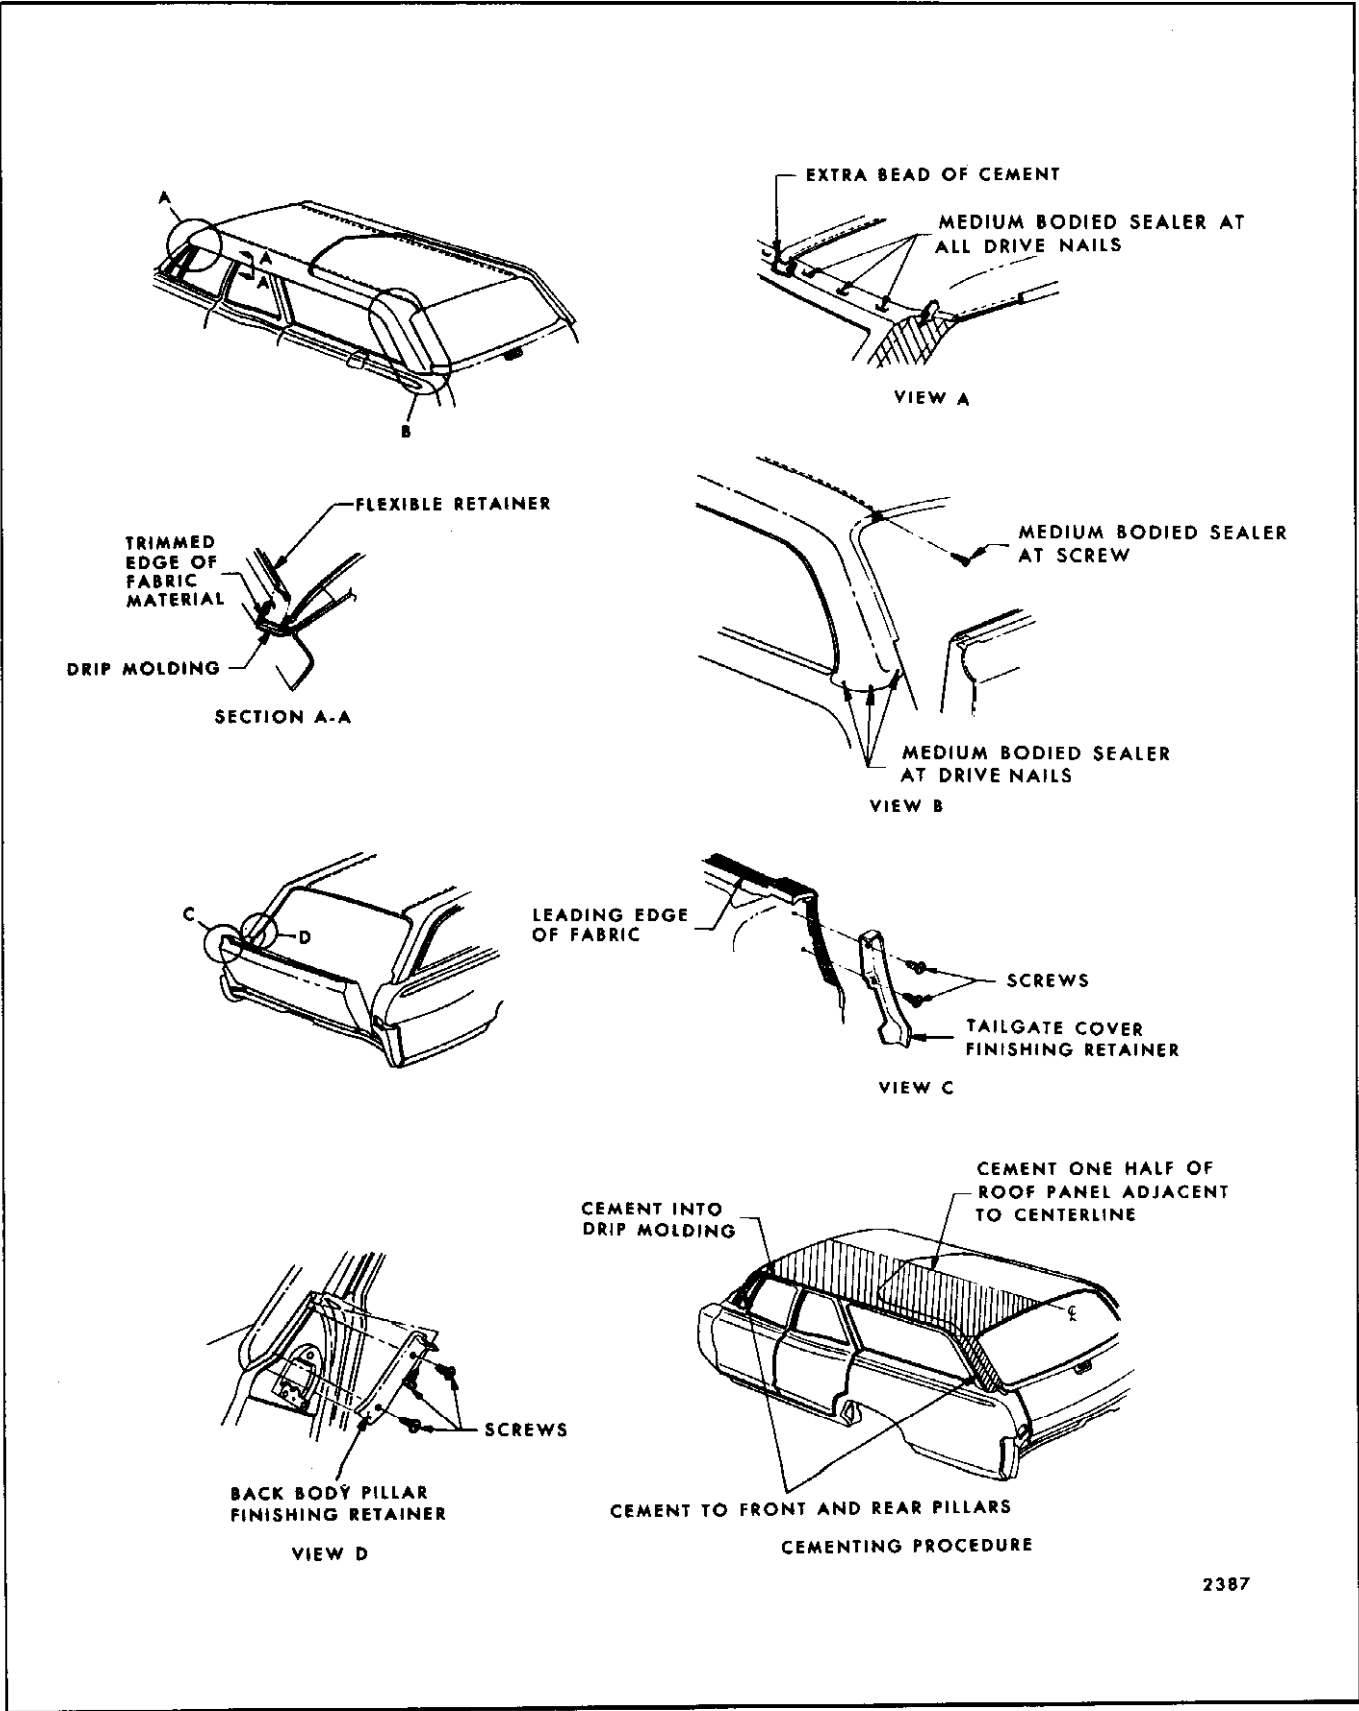

Fig. 12-6—Fabric Roof Cover Installation - Station Wagon Styles
4. Remove flexible retainers securing fabric cover inside right and left drip moldings (See Section "A-A", Fig. 12-6). The retainers may be removed by inserting tip of screwdriver or similar tool under retainer at front of drip molding. While exerting slight outward force on drip molding with pliers, disengage fingers of retainer from drip molding flange. **DO NOT DAMAGE DRIP MOLDING.**
16. Using fabric cover trimming tool (J-21092), or suitable small knife, trim fabric cover just under lip of roof drip molding (Section "A-A", Figure 12-6). A tool may be fabricated to trim material along roof drip rail moldings as illustrated in Figure 12-2.
18. Apply medium bodied sealer at each drive nail and at 2 screws at seam area in back body opening (View "A" and "B", Fig. 12-6).
d. Immediately position fabric to top leading edge of tail gate panel and work material down to molding attaching holes (See View "C", Fig. 12-6).
f. Trim off excess material on tail gate flange (View "C", Fig. 12-6).